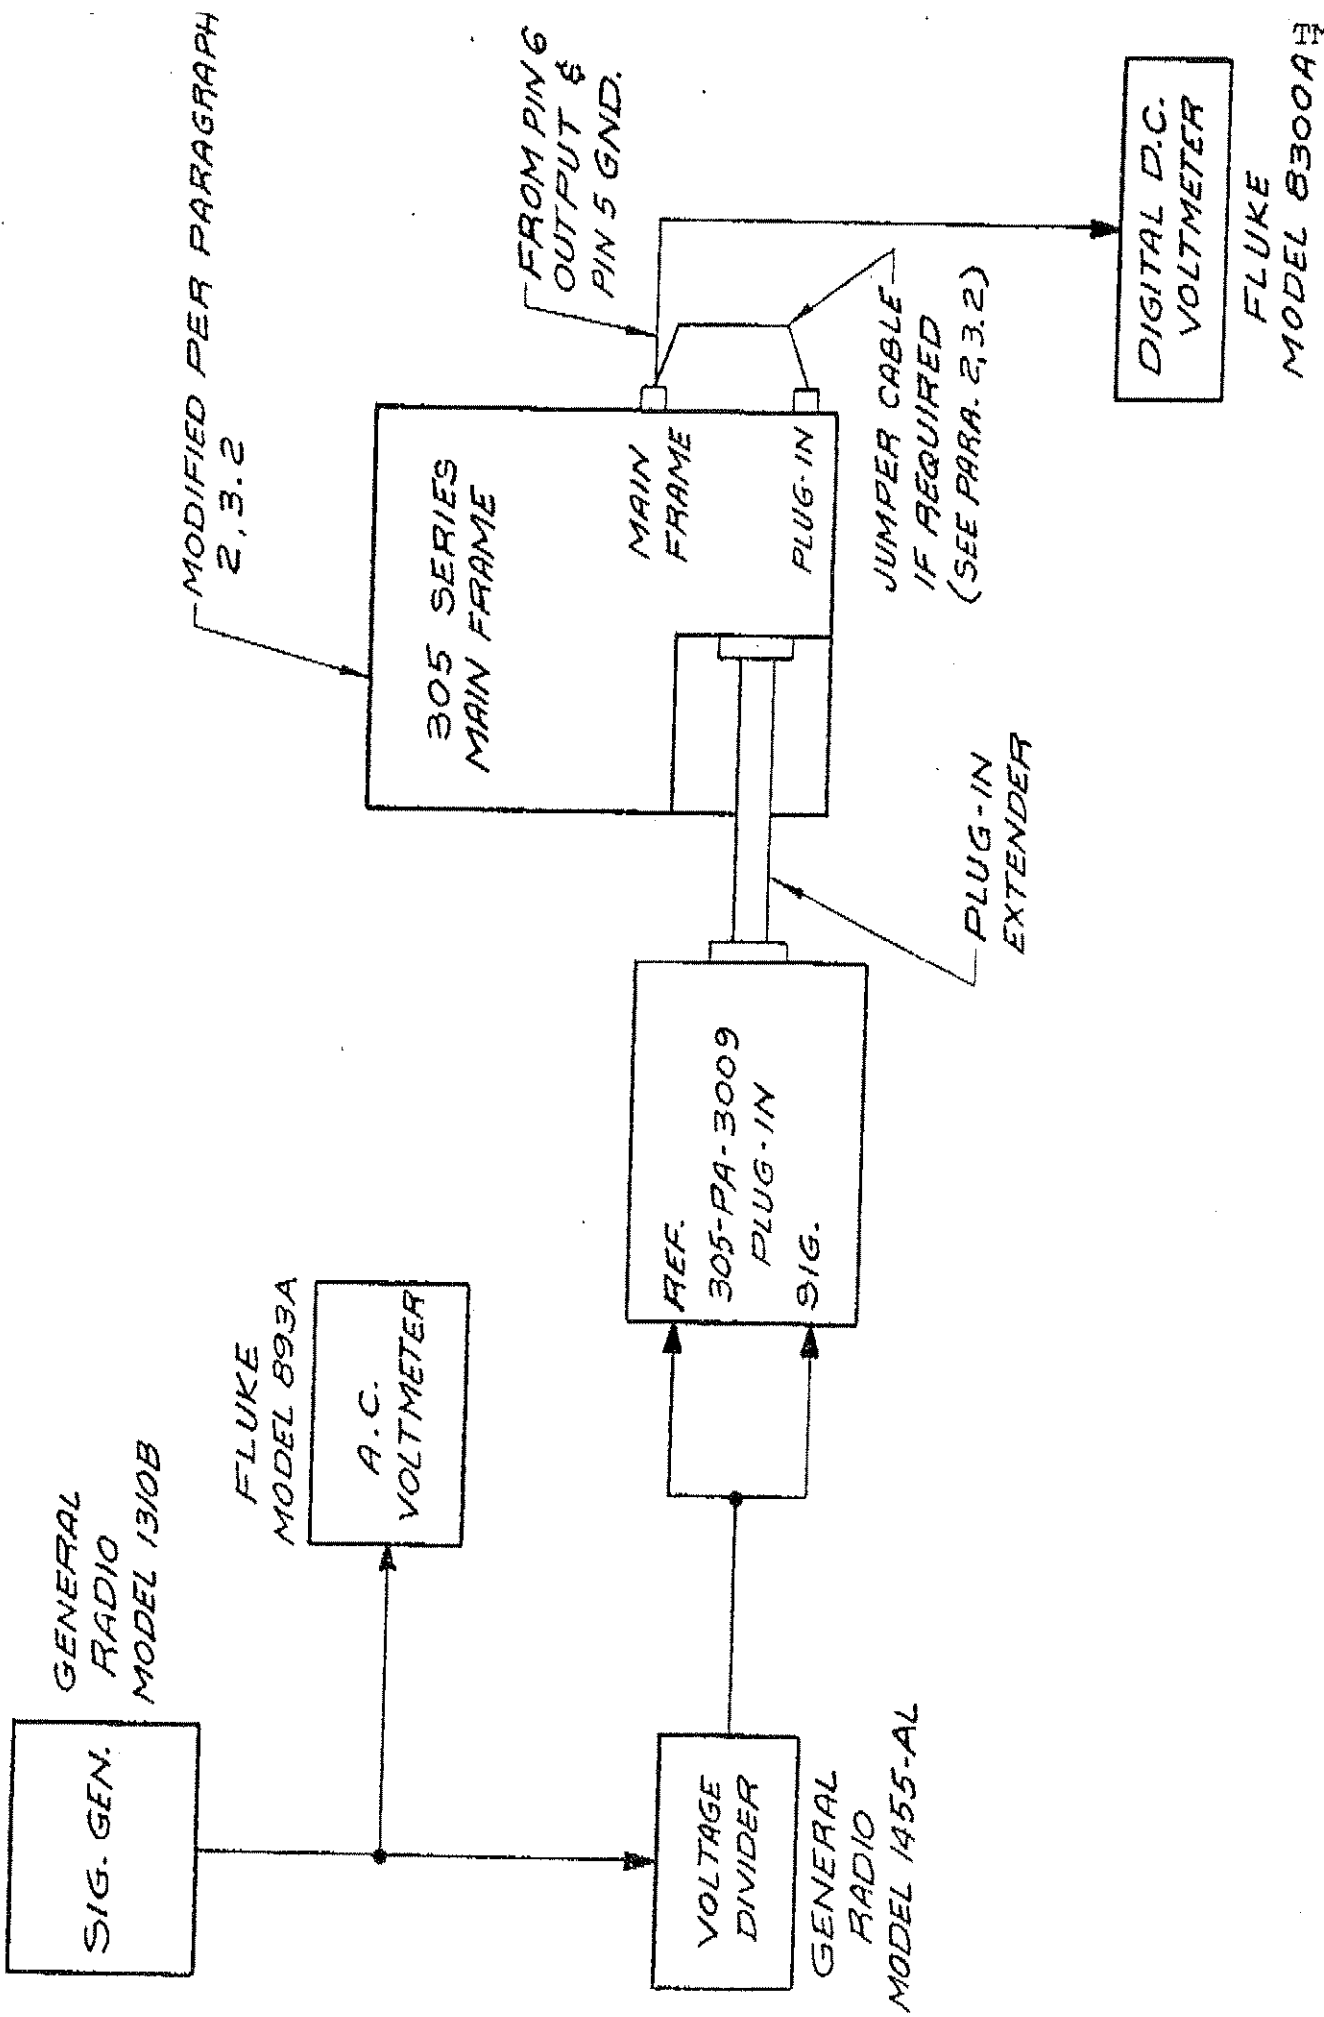

FIGURE 5-1 TEST CIRCUIT
- 5.2.4 Connect the equipment as detailed by Figure 5-1. Energize all equipment and allow a 15 minute minimum warm-up before proceeding.